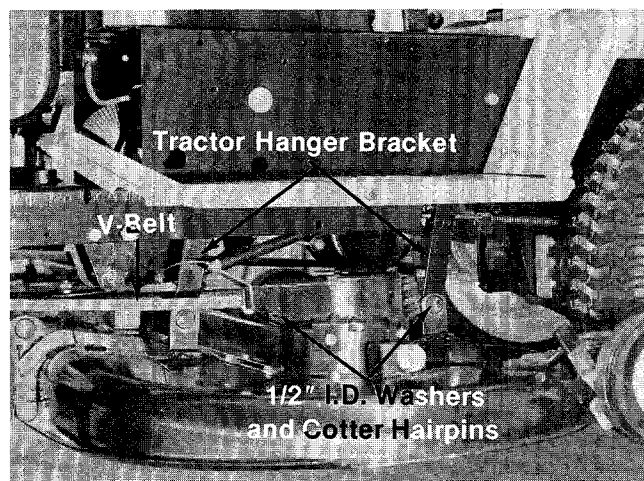
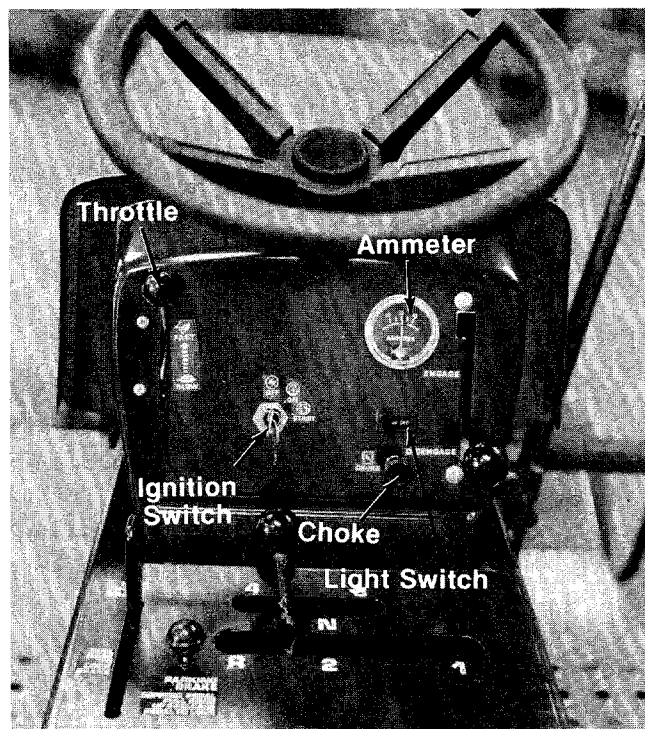

FIGURE 6.
FIGURE 9.
8. Attach the four tractor hanger brackets to the deck with four 1/2" I.D. washers and four medium cotter hairpins. (See figure 6.)
The ignition switch is located in the center of the dashboard. Turn the key to the START position to start the engine. When the engine is running, leave the key in the ON position. To stop the engine, turn the key to the OFF position. (See figure 9.)
The throttle control is located on the left side of the dashboard and is used to regulate the engine speed. (See figure 6.) The engine should be operated from $\frac{3}{4}$ to full throttle (FAST) when operating any equipment that uses the tractor engine as a source of power such as the mowing deck, snow thrower or rotary tiller. (See figure 9.)
The choke control is located on the right side of the dashboard and is operated manually. Details for the choke operation are covered in the Engine Operating and Maintenance Instructions Manual. (See figure 9.)
The headlamps are operated by pushing the light switch located on the dashboard. The headlamps will only operate when the engine is running. (See figure 9.)
The maximum charging rate is 3 amps. The headlamps operate directly from the engine alternator and do not register on the ammeter. (See figure 9.)